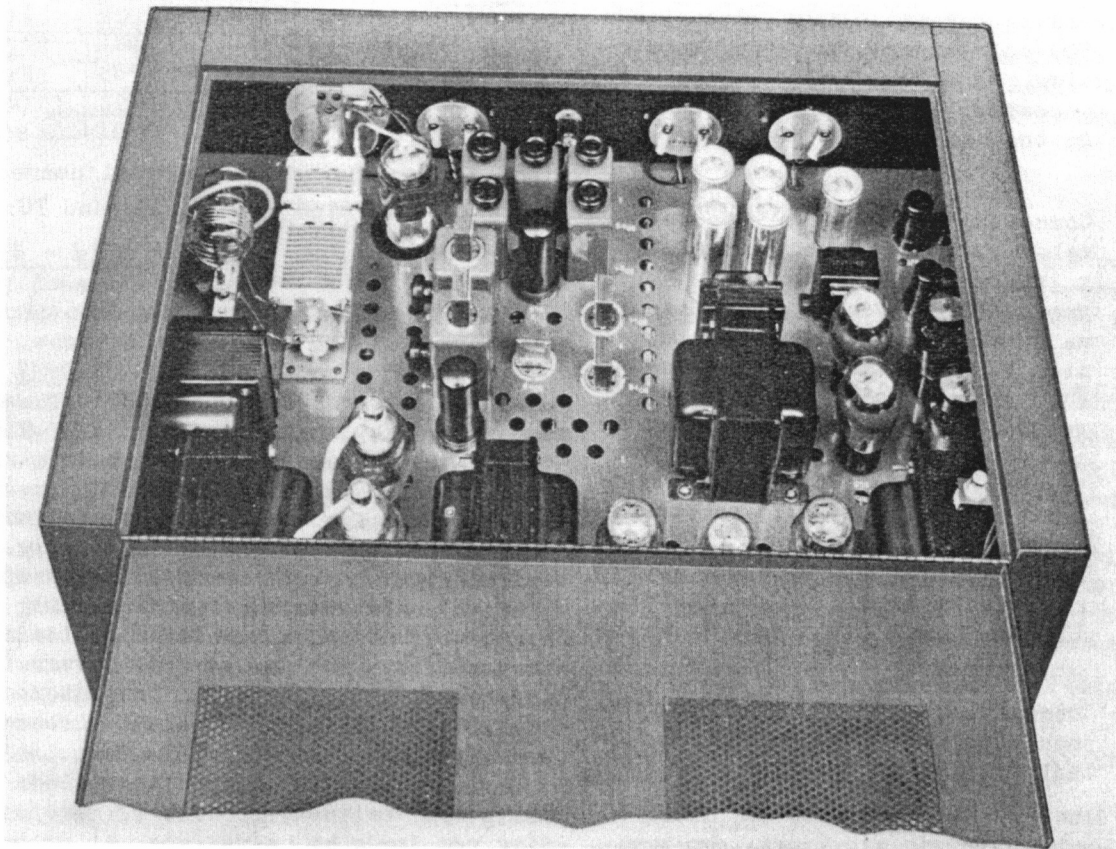

Figure 3. Model HT-9 Transmitter, top view showing tuning units and coil units in place.
**A-2. RADIO FREQUENCY SECTION** - The r-f section of the HT-9 transmitter uses two type 6L6 tubes ( $V_1$  and  $V_2$ ) as oscillator and doubler and a type 814 beam power tube ( $V_3$ ) as a final amplifier. Refer to the circuit diagram, figure 6, for electrical connections, and to plan view of chassis, figure 7, and top view of transmitter, figure 3, for location of the various components. When operating on frequencies below 10 megacycles tube  $V_1$  is not used and tube  $V_2$  functions as a crystal oscillator, driving the final amplifier tube  $V_3$  on the crystal frequency. At frequencies above 10 megacycles tube  $V_1$  is the crystal oscillator and tube  $V_2$  acts as a frequency doubler.